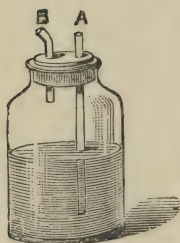

Fig. 37.—The Purifier.
oxygen. A very good purifier can be made out of a wide-mouthed glass bottle or jar, as shown in Fig. 37. The two tubes, A and B, pass air-tight through a plug or cork, the tube A goes down to within about $\frac{3}{4}$ inch of the bottom of the bottle, the other tube (B), called the exit tube, is only 3 or 4 inches long. When required for use the bottle is about two-thirds filled with water. The purifier sold